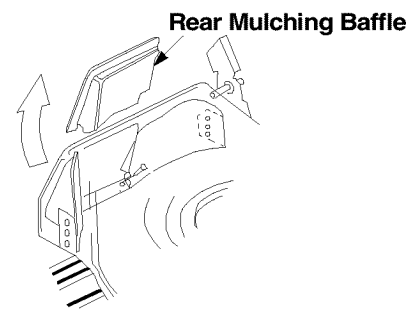

Figure 8
- Lift the rear discharge door and remove the rear mulching baffle from the mower. See Figure 8 .